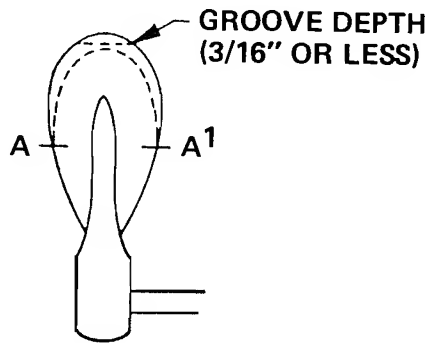

Figure 9-1. Tear Drop Hammer Head — Groove Removal
- a. Examine the condition of the Hammer Heads. If the grooves are not more than $3/16''$ (4.762mm) deep, they can be reshaped by sanding off the outer surface. To accomplish this, construct a shaping tool from a 6'' (152.4mm) length of wood to which has been cemented a piece of very rough sand paper. Beginning at Points A and A1 work upward toward the crown — taking off enough of the outer layer of felt to remove all trace of the groove (Figure 9-1).